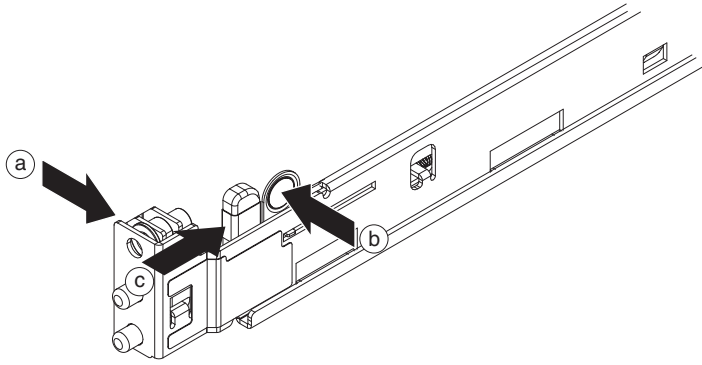

Figure 5. The front left rail attaching to the rack
4. Insert the left front of the rail, as shown in Figure 5 on page 15.